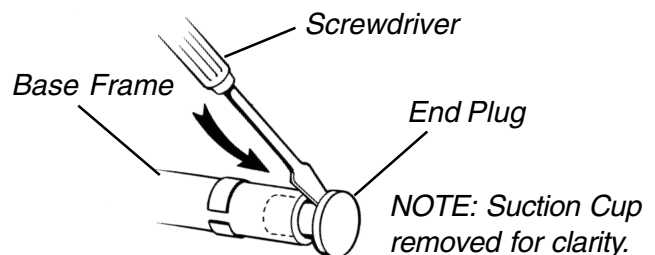

FIGURE 9 - REMOVING THE EXISTING END PLUG
2. Place screwdriver behind the lip of the EXISTING end plug (FIGURE 9).